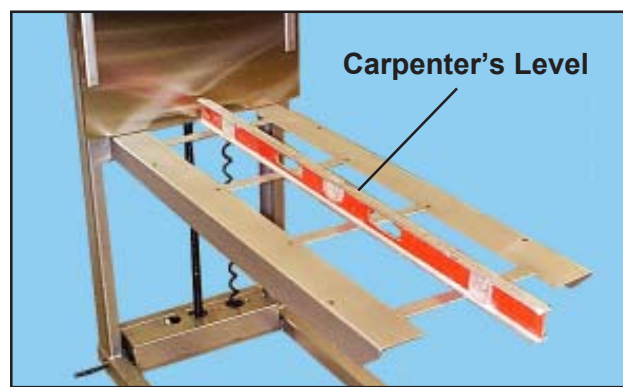

Figure 6. Carpenter's Level Lengthwise on Table Arms
9. Place the level *lengthwise* along the table (Figure 6).